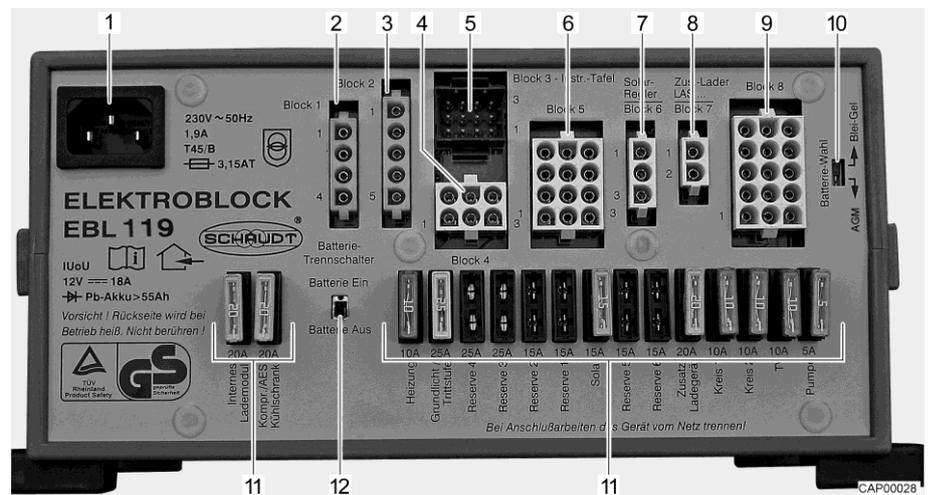

Fig. 203 Transformer/rectifier (EBL 119, as an example)
- ▷ Except for the battery selector switch (Fig. 203,10), the transformer/rectifier EBL 99 and the transformer/rectifier EBL 119 have the same design.